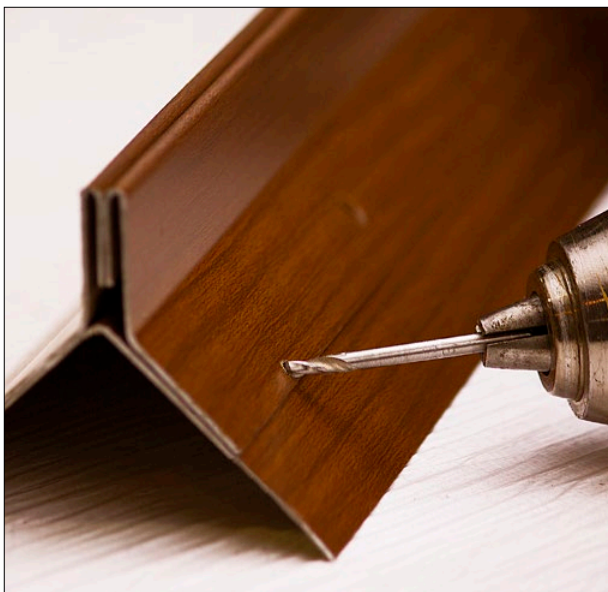

Fig.70
Step 1: Pre-drill installation holes at a minimum of 10 inches apart. (see Fig.70).